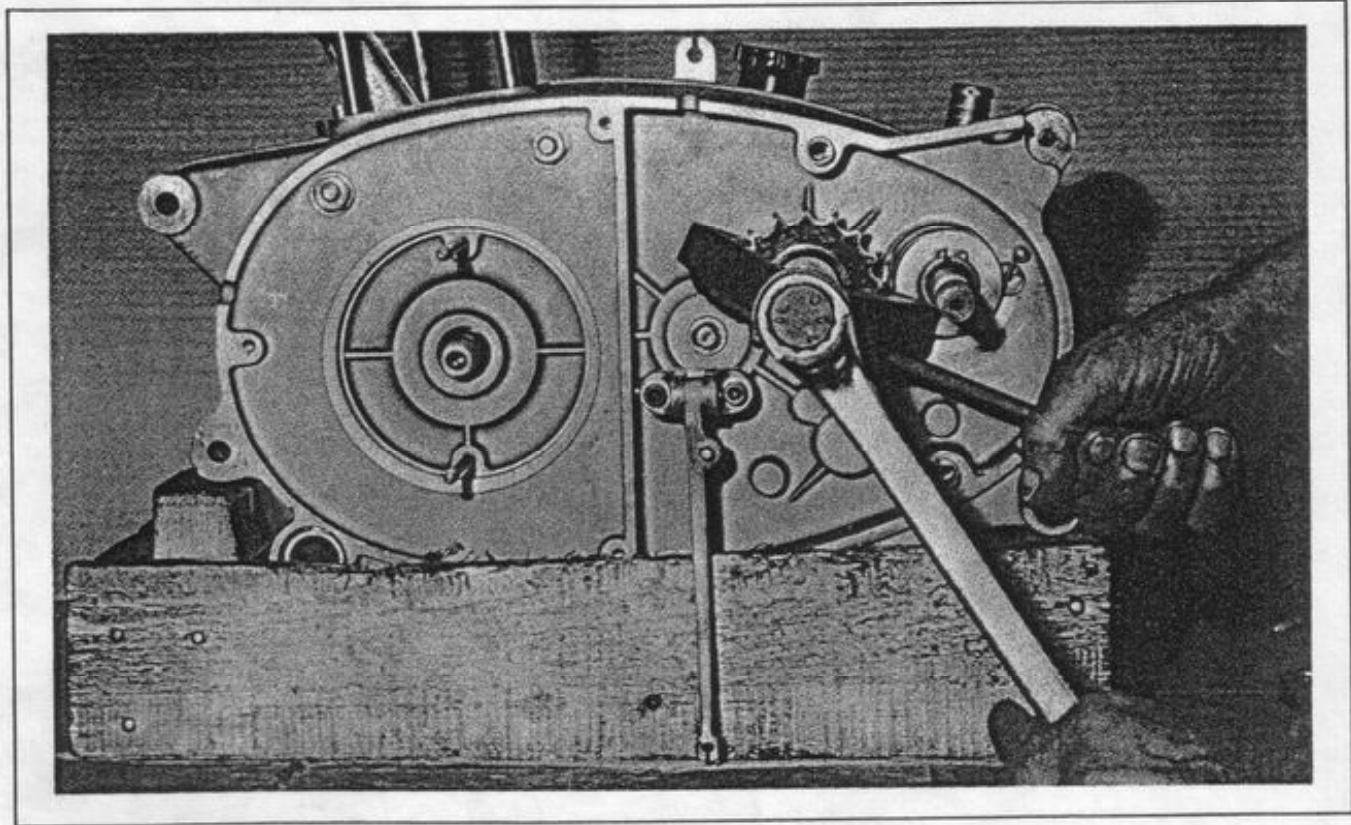

Figure 15.
3. Use puller PP to pull off the sprocket. (Figure 15).